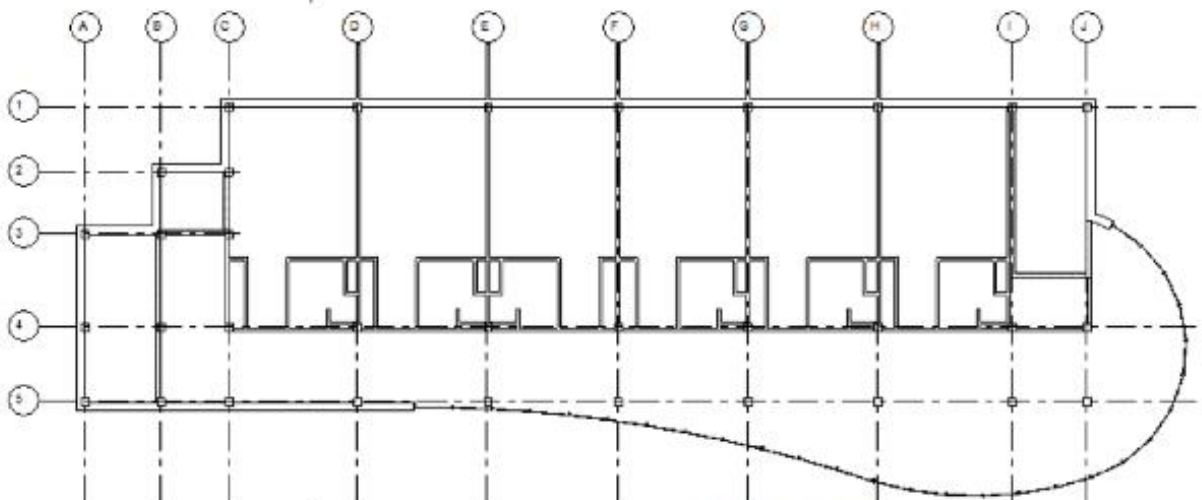

Figure 4-31
2. Add walls for the guest rooms (as shown in Figure 4-31) using the wall type **Interior - 138mm Partition (1-hr)** with a **Height of Floor 3** and a **Top Offset of (negative) -300mm**.